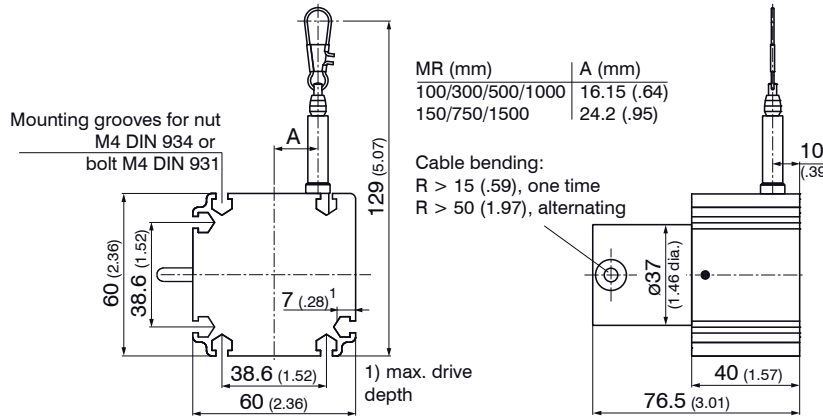
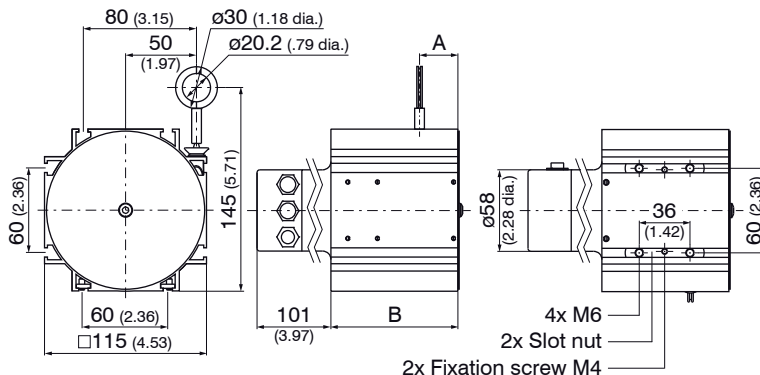

Fig. 2 Dimensional drawing WDS-... - P60 - CR - P, dimensions in mm (inches), not to scale
Fig. 16 Dimensional drawing WDS- ... - P115 - CO/PB, dimensions in mm (inches), not to scale
- Mount the sensor through mounting grooves for nut M4 DIN 934 or bolt M4 DIN 931, see Fig. 2 up to, see Fig. 16.